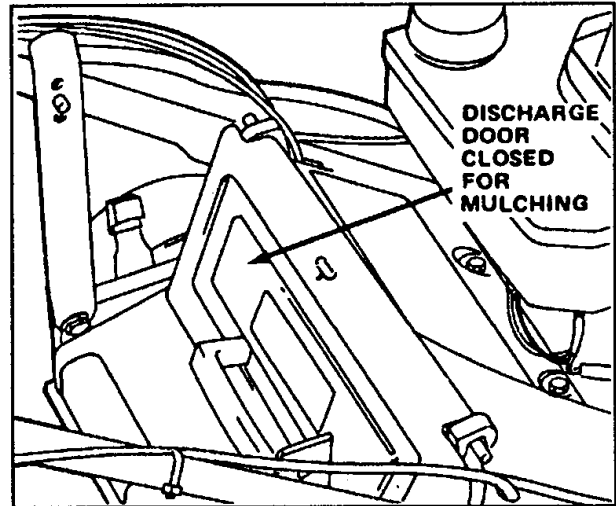

Figure 6
4. MULCHING—In summer when grass grows slower and is drier, mulch by removing the grass bag and closing the discharge door (Fig. 6).